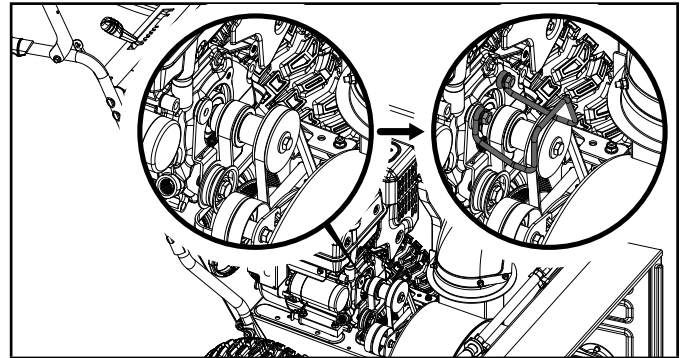

Figure 35
10. Place the belt guard back into place and install the (20 mm/30 mm) bolts that were removed earlier. Once reinstalled, make sure there is equal distance on both sides between the pulley and the guard (Fig. 35).